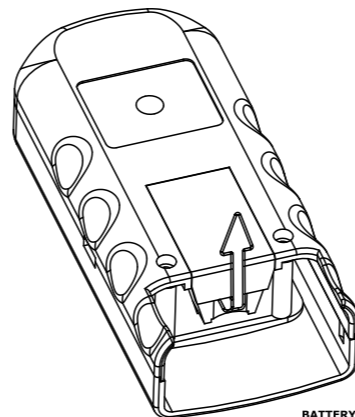

Fig.5
- Remove battery compartment cover (see Fig.5).